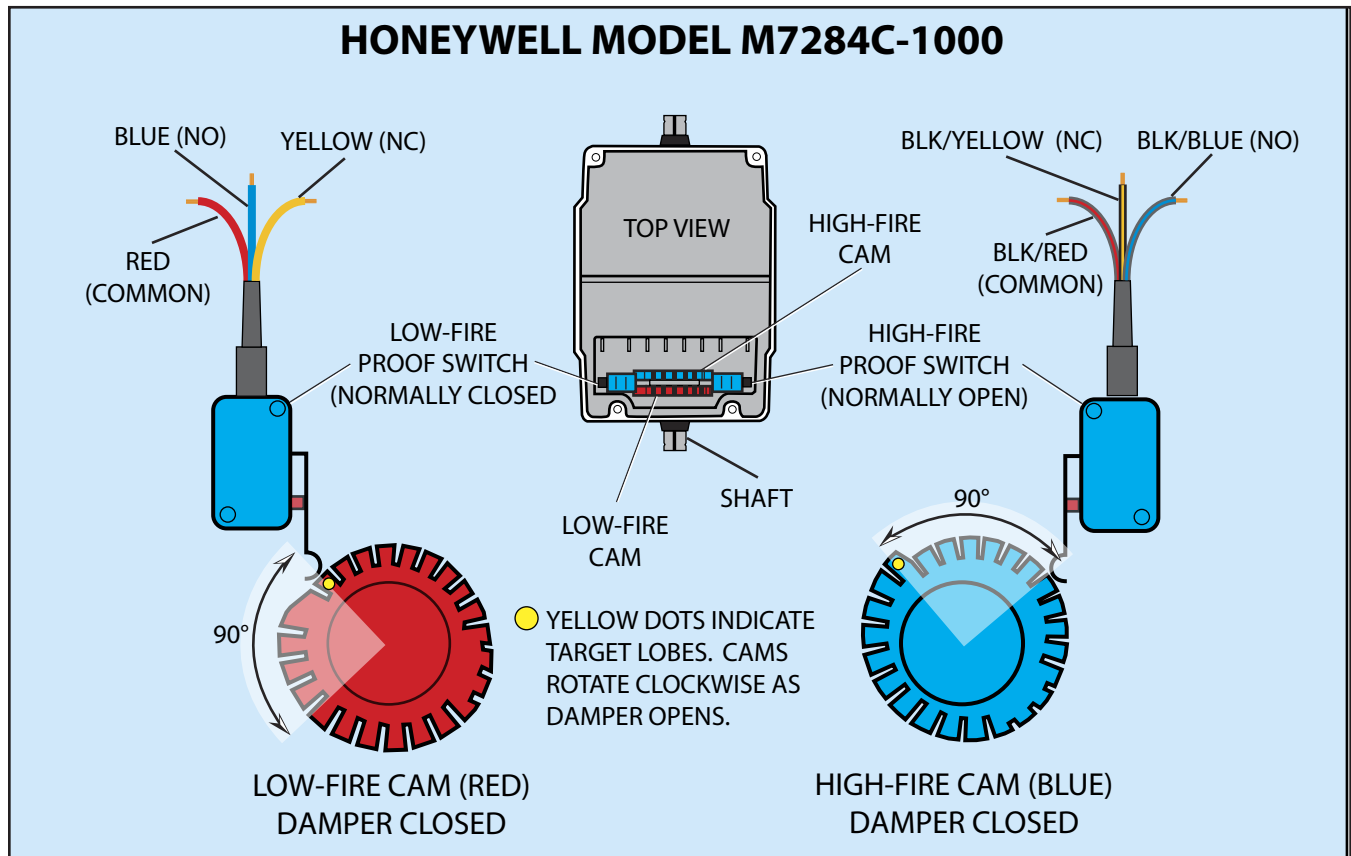

Figure 9. Configuration of cams and switches.
5. In order to make sure the cams are positioned properly you may need to rotate them until you can see their *target* lobes (indicated by yellow dots in **Fig. 9**) and then reset them to their proper positions. NOTE: The yellow dots are only shown in **Fig. 9**. There are no dots on the actual lobes.
7. Make sure the *target* lobes of the two cams are rotated to the positions shown in **Fig. 9**. The
U-shaped ends of the switch arms should rest on the cams as shown in **Fig. 9**.